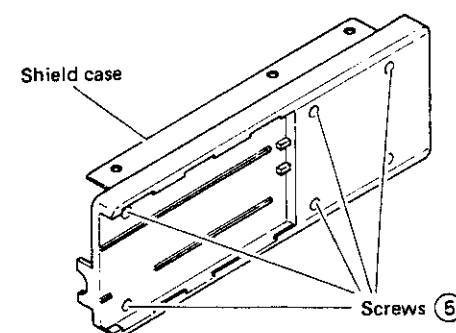

Fig. 2-3
4. After the main Board is removed, remove screws ⑤ and the shield case as shown in Fig. 2-3. Now the sub-board can be removed.